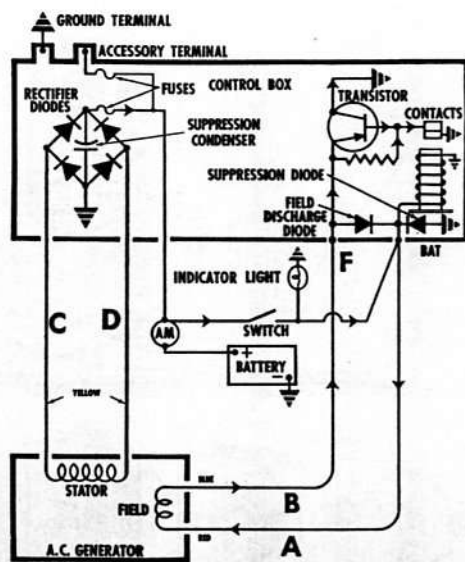

Figure 30
- A. If the lead from the field winding to the "F" terminal of the regulator (marked "B" in the wiring diagram Fig. 30) should become grounded. Battery will be charged excessively.
- C. A short circuit between leads from the stator winding to the rectifier (wires marked "C" and "D", Fig. 30) or from these becoming grounded. Ammeter will show a discharge and an undercharged battery would result.